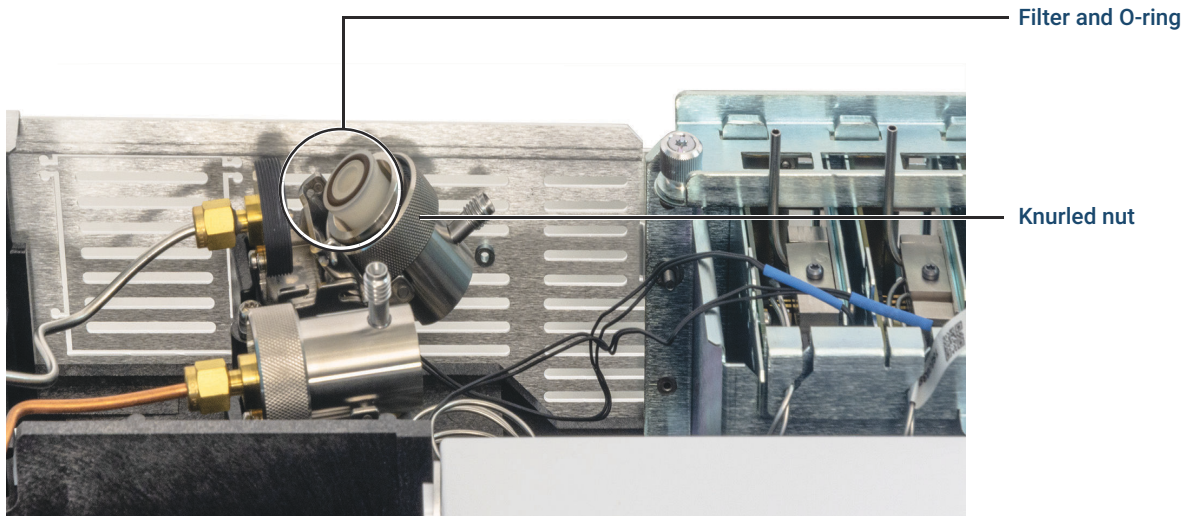

Figure 33. Slide trap assembly to expose the filter
5. Tilt the trap assembly backwards until it stops, exposing the filter. See Figure 33.